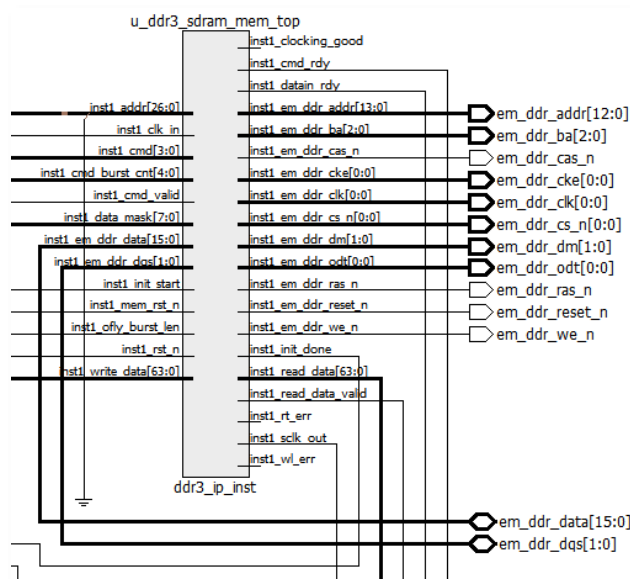

Figure 3.15. Flatten the Module Using Dissolve Instance
1. If a module has multiple hierarchy, **dissolve instance** flattens the module once like shown in Figure 3.15.